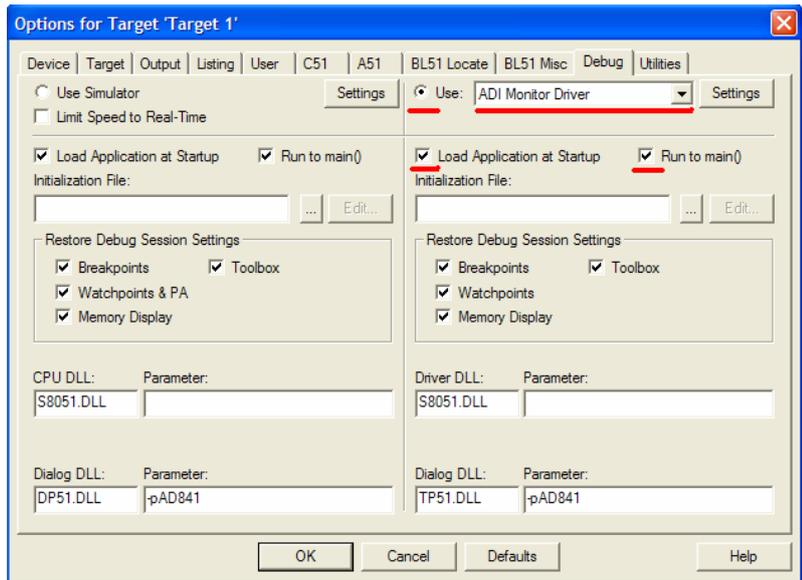

Figure 2
2). Configure the debug parameter. You should operate according to Figure 2. Pay attention to the places denoted by red lines.